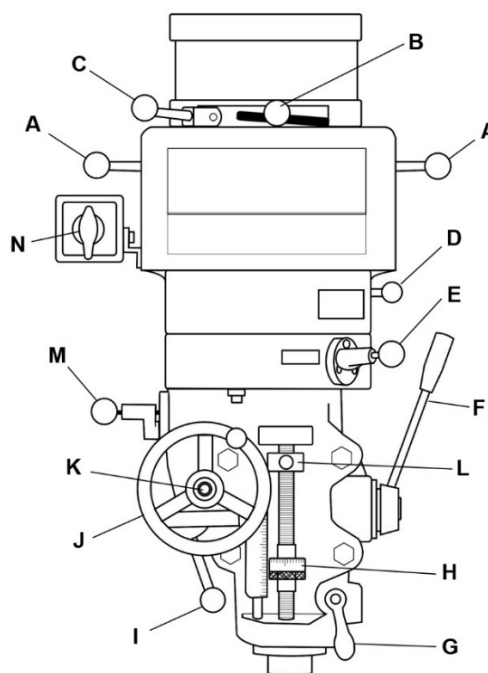

Figure 8
Refer to Figure 8:
1. Ensure quill lock (G, Figure 8) is loosened by rotating counterclockwise.
2. Set micrometer dial (H) to desired depth.
3. Engage auto quill feed lever (D) by pulling out lock knob and moving lever to left hole.
4. Select feed rate (M).
5. Select feed direction (K).
6. Engage feed trip lever (I) by pulling away from head assembly.
WARNING Verify that manual fine feed handwheel (J, Figure 8) has been removed for power feeding. Failure to comply may cause injury.
1. Lock spindle by turning spindle brake (C, Figure 8) left or right.